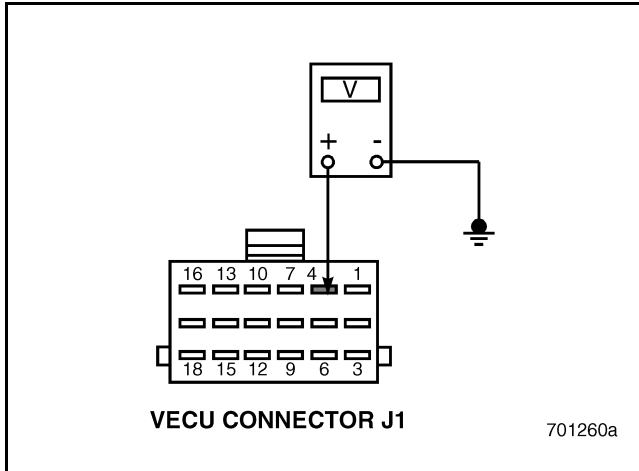

Figure 505
5. Measure the voltage between VECU connector J1 pin 4 and a good ground (see Figure 505).